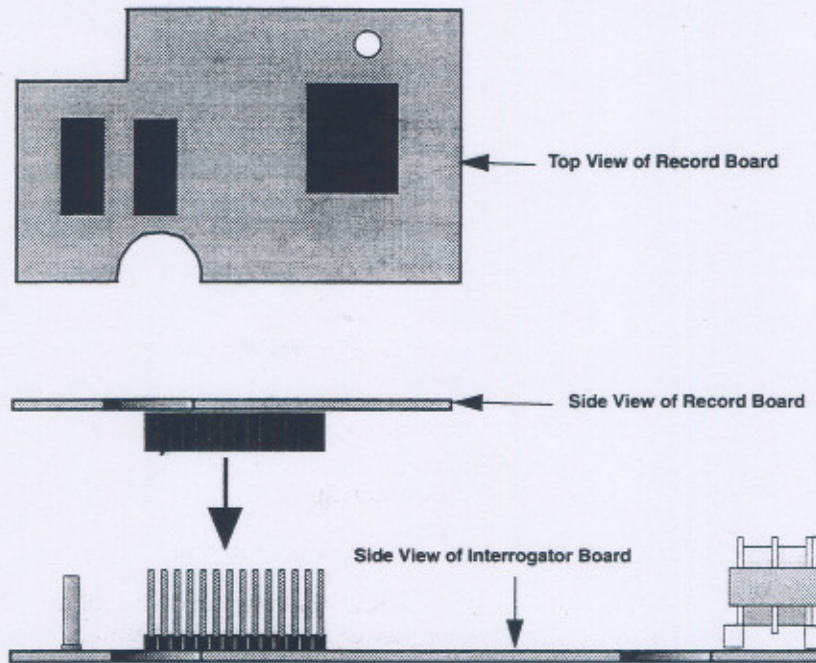

Figure 2.5 Record Board Alignment
1. Align the female connector on the record board with the male connector on the Interrogator board (see Figure 2.5).